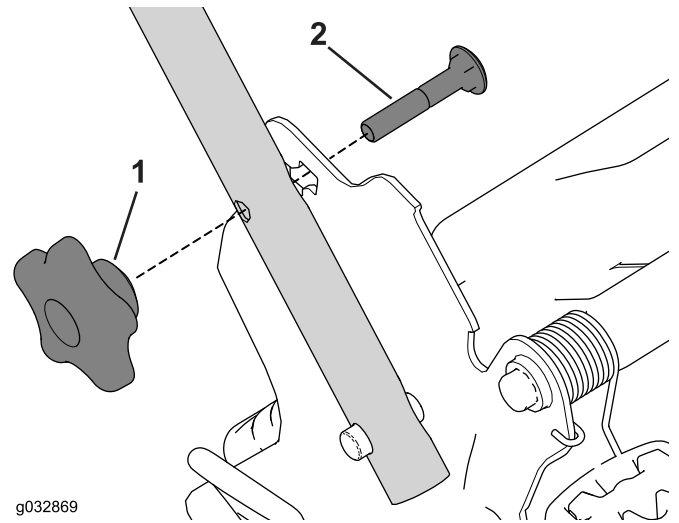

Figure 26
- Remove and save the 2 handle knobs and 2 carriage bolts from the handle brackets (Figure 26).